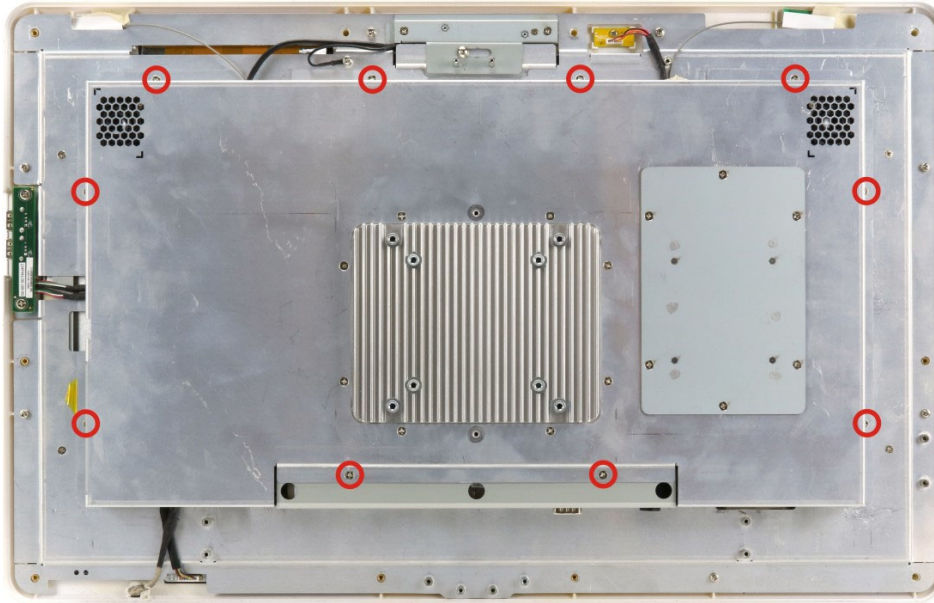

Figure 6-2: Aluminum Cover Retention Screws
Step 3: Remove the 10 retention screws from the internal aluminum cover. (**Figure 6-2**).